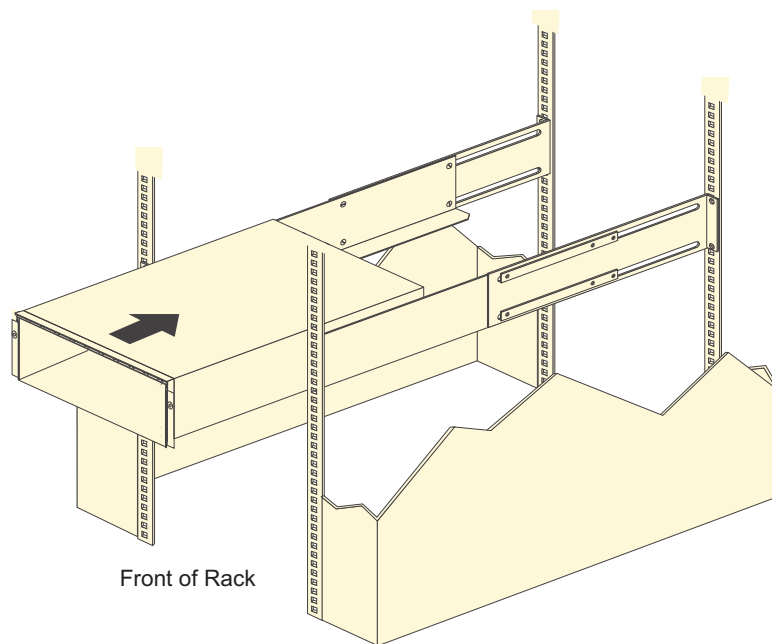

Figure 12. Installing the EXP520
- b. With help from another person, place the back of the storage expansion enclosure on the support rails, and then slide the unit into the rack as shown in Figure 12.